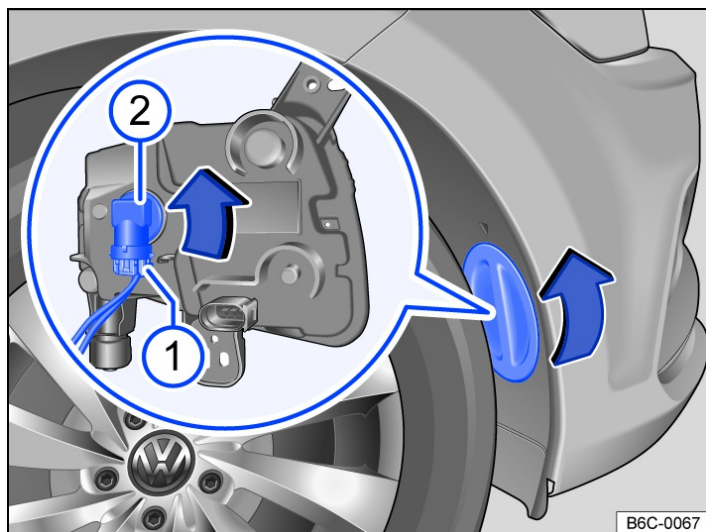

Fig. 1 In the front bumper on the right: changing a bulb in the headlight.
2. Use one hand to hold the tail light cluster in the fitting position while using the other hand to screw tight the securing screw → *Fig. 1* ①.